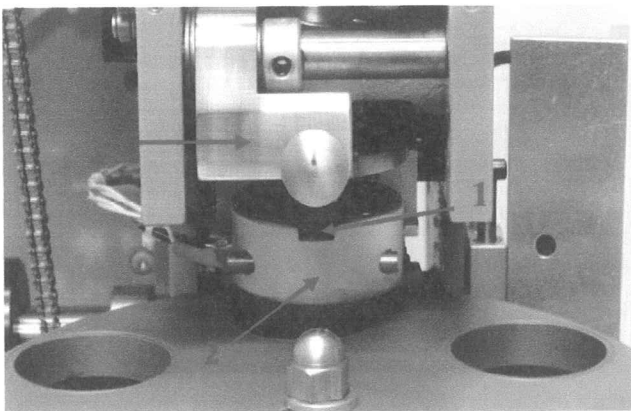

Fig. 12 – Typical View of Cavity
If compression springs (see Figures 12 and 16), become worn or defective they must be replaced for proper sealing of medication cups. For removal of springs, a special cut-off wrench is provided for loosening rear stripper bolt to allow sealing head to be freed. Use the following procedure for removing springs:
2. Remove Cup Dispenser by removing the two (2) socket head cap screws attaching the support post to the main frame.
4. Remove front cover by removing three (3) 10-32 screws.
6. Looking Directly into the cavity between the sides of the housing, locate the Sealing Head, Compression Springs, and Stripper Bolts (see Fig. 12).